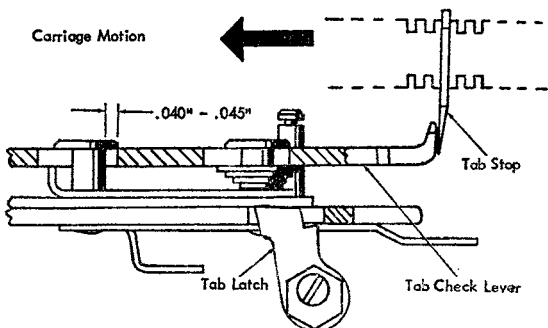

Figure 24. Tab Latch Adjustment
**6. TAB-LATCH.** Form the tab-latch, at the point of contact with the tab check-lever, so the tab unlatches when the tab check-lever is .040" to .045" from its full left-hand position (Figure 24.)